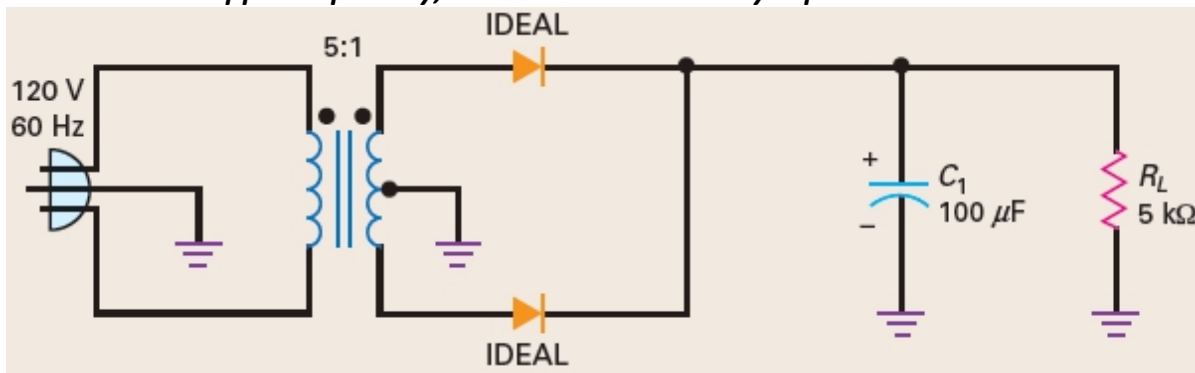

Figure-59 Full-wave rectifier and capacitor-input filter
- In Figure-59, the plus sign on the capacitor case is correctly connected to the positive output voltage. You must look carefully at the capacitor case when you are building or troubleshooting a circuit to find out whether it is polarized or not.
What is the dc load voltage and ripple in Figure-59?
Using Figure-59, change R_L to **2 kΩ** and calculate the new ideal dc load voltage and ripple.